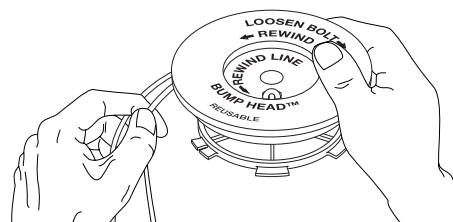

Fig. 37
- Wind the lines in tight even layers, onto the reel (Fig. 37). Wind the line in the direction indicated on the inner reel. Place your index finger between the two lines to stop the lines from overlapping. Do not overlap the ends of the line. Proceed to step 11.